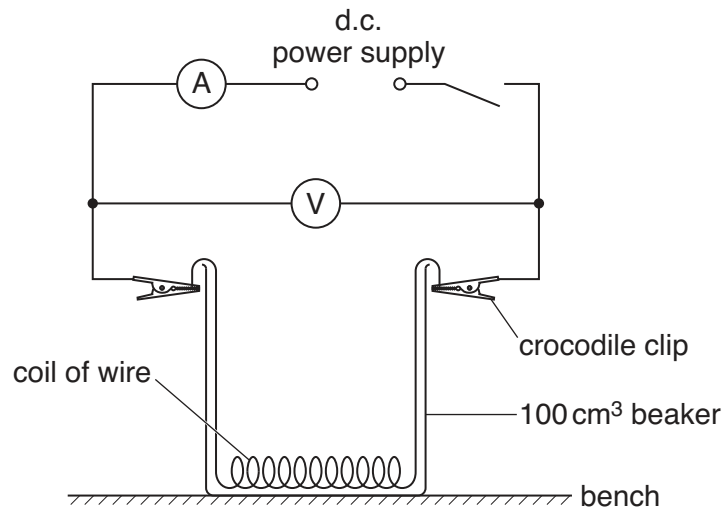

Fig. 4.1
Six connecting leads to enable the Supervisor to set up the circuit shown in Fig. 4.1.
2. A 50cm length of constantan wire of 28swg (0.38mm diameter) should give an approximate resistance of $2\ \Omega$. The constantan wire should be wound around a pencil to form a coil. This should then be placed at the bottom of the 100cm^3 beaker with the two ends of wire protruding over the side of the beaker as shown in Fig. 4.1. The wire should be taped to the top edge of the beaker. The Supervisor should ensure that the turns of the coil do not touch.
7. At the changeover, the Supervisor should check that the circuit is set up as in Fig. 4.1 with the switch open. Water in the 100cm^3 beaker should be discarded. The Supervisor should ensure that there is sufficient water at room temperature for the next candidate.